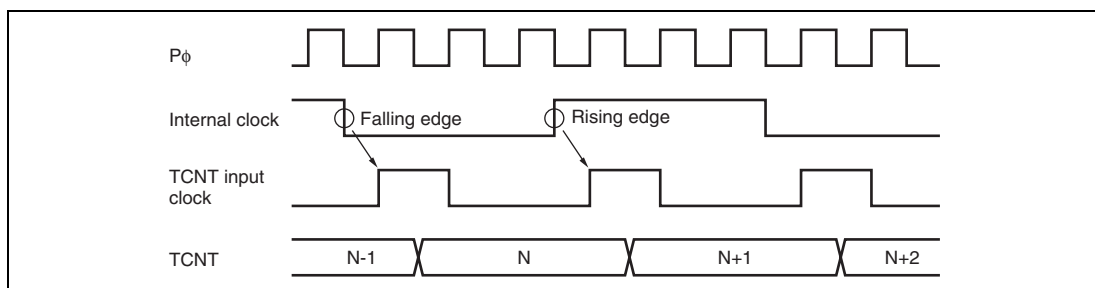
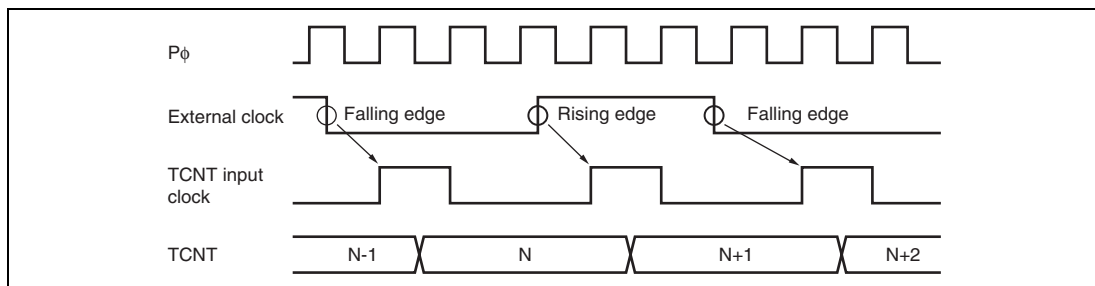
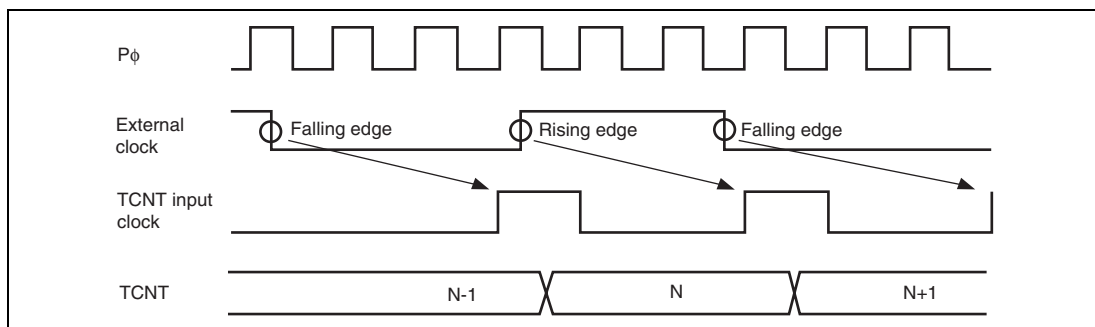

**Figure 11.54 Count Timing in Internal Clock Operation**
**Figure 11.55 Count Timing in External Clock Operation**
**Figure 11.56 Count Timing in External Clock Operation (Phase Counting Mode)**
**TCNT Count Timing:** Figure 11.54 shows TCNT count timing in internal clock operation, and figure 11.55 shows TCNT count timing in external clock operation (normal mode), and figure 11.56 shows TCNT count timing in external clock operation (phase counting mode).